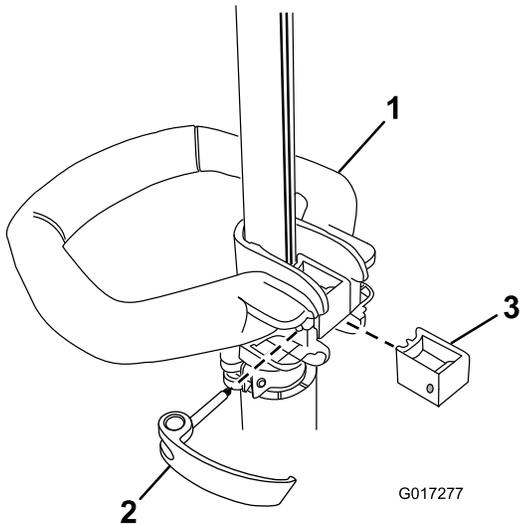

Figure 1
1. Position the auxiliary handle on the shaft of the trimmer with the smooth surface facing you (Figure 1).
2. Slide the brace into the auxiliary handle so that the brace rests in the groove along the shaft (Figure 1).
3. Slide the latch from the left through the handle and brace as shown and tighten the latch screw with a Phillips head screwdriver (Figure 1).